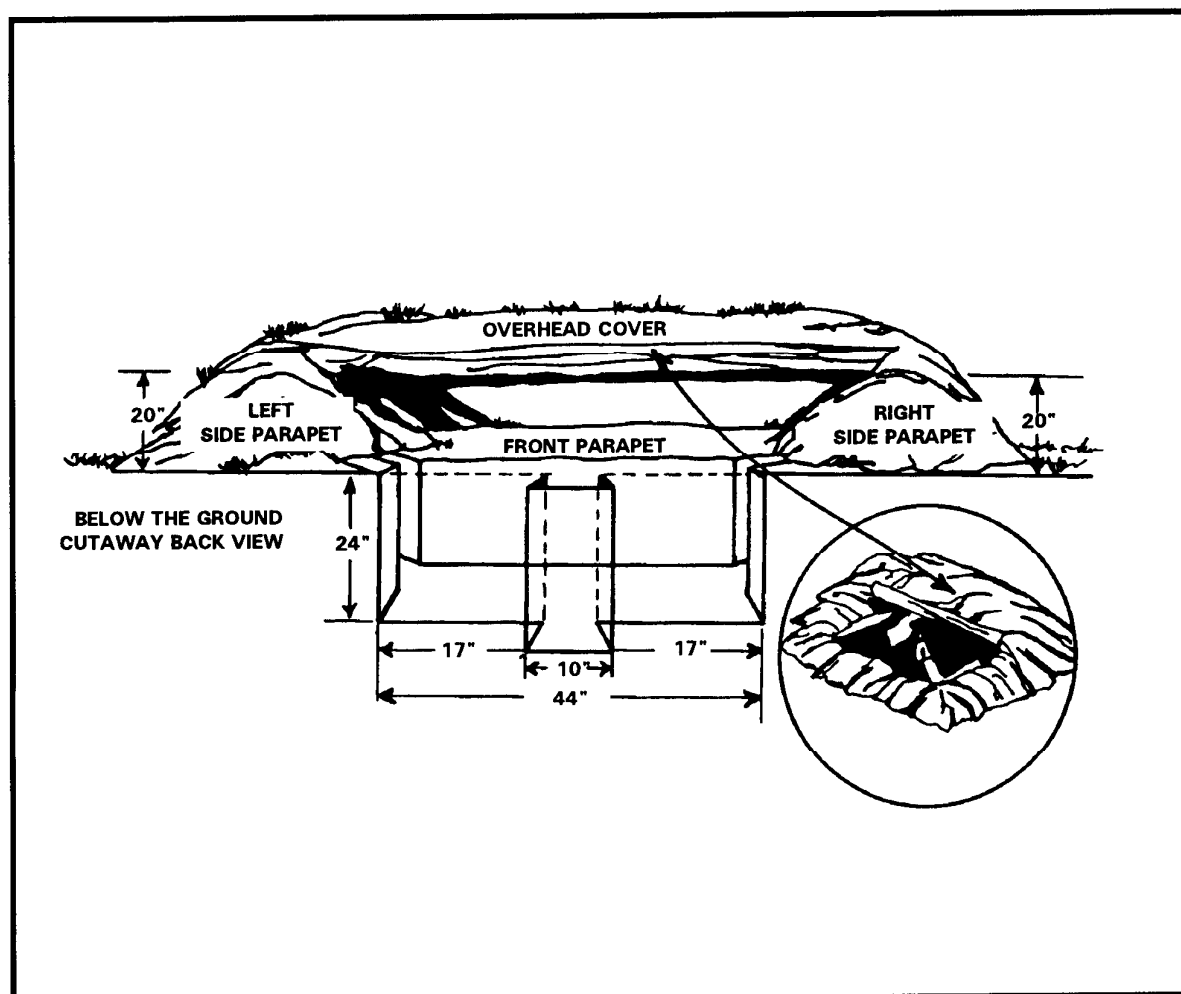

Figure D-2. Storage/protective area.
(5) Dig a storage/protective area for the crew and missiles to one flank at a 90-degree angle to the primary direction of fire. Use the strongest material available for the roof. Put canvas or plastic down before throwing dirt on the roof to keep the ceiling from leaking. Place at least 20 inches of dirt on top of the storage/protective area (Figure D-2).
(6) Ensure the ground behind the TOW is free of leaves and dirt out to 25 meters so the backblast does not leave a signature.
(7) Ensure all the standard principles of camouflage are followed. (For example, cover all fresh dirt with leaves and brush, replace withered foliage, always approach position from rear, and so forth.)